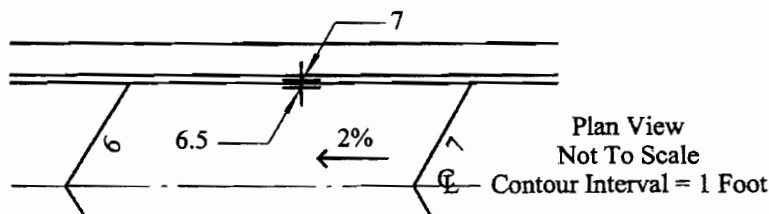

Figure 3-44. Establishing Elevation at Top of Curb
Step 2. The curb is six-inches high. Six-inches expressed in tenths of a foot, is point five (.5). Adding .5 to 6.5 equals 7. Therefore, the elevation at the top of the curb immediately above the 6.5 tick mark is 7. That is the point where contour line 7 mounts the curb as shown in Figure 3-44.